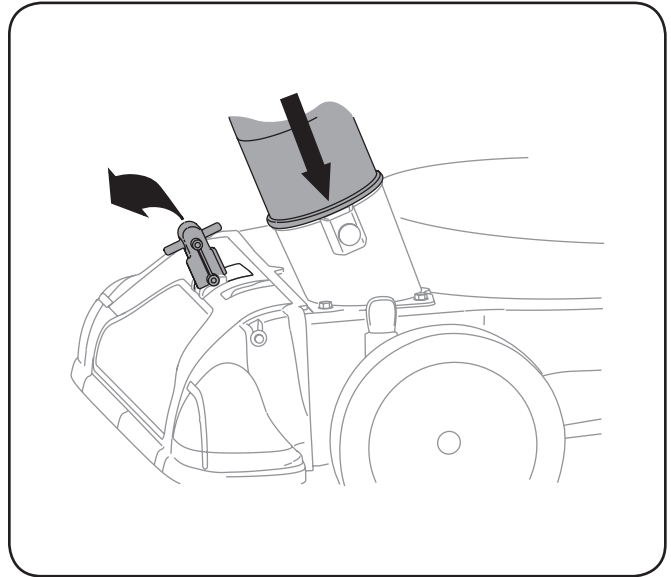

Figure 5-4
1. Place nozzle/hose vac lever in the bottom position on the nozzle to redirect vacuum to the hose assembly. See Figure 5-4.
2. The spring loaded pin must be in the second hole of the hose adapter to operate the hose assembly. See Figure 5-4.